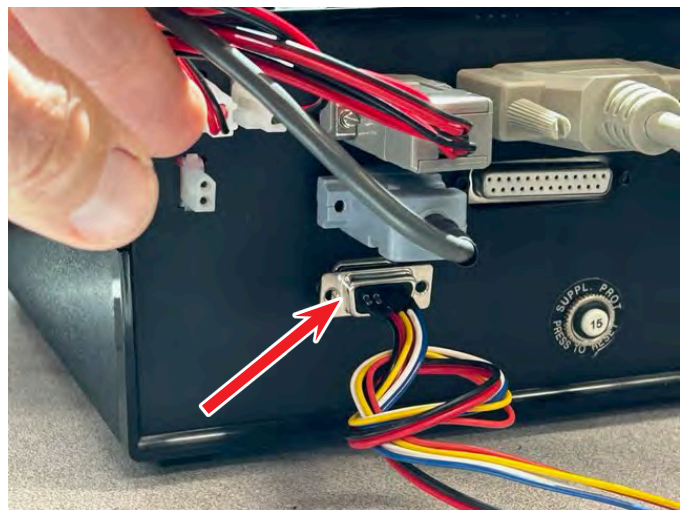

FIGURE 27
- B. This is the bottom DB9 connector on the backside of the controller (see Figure 27).